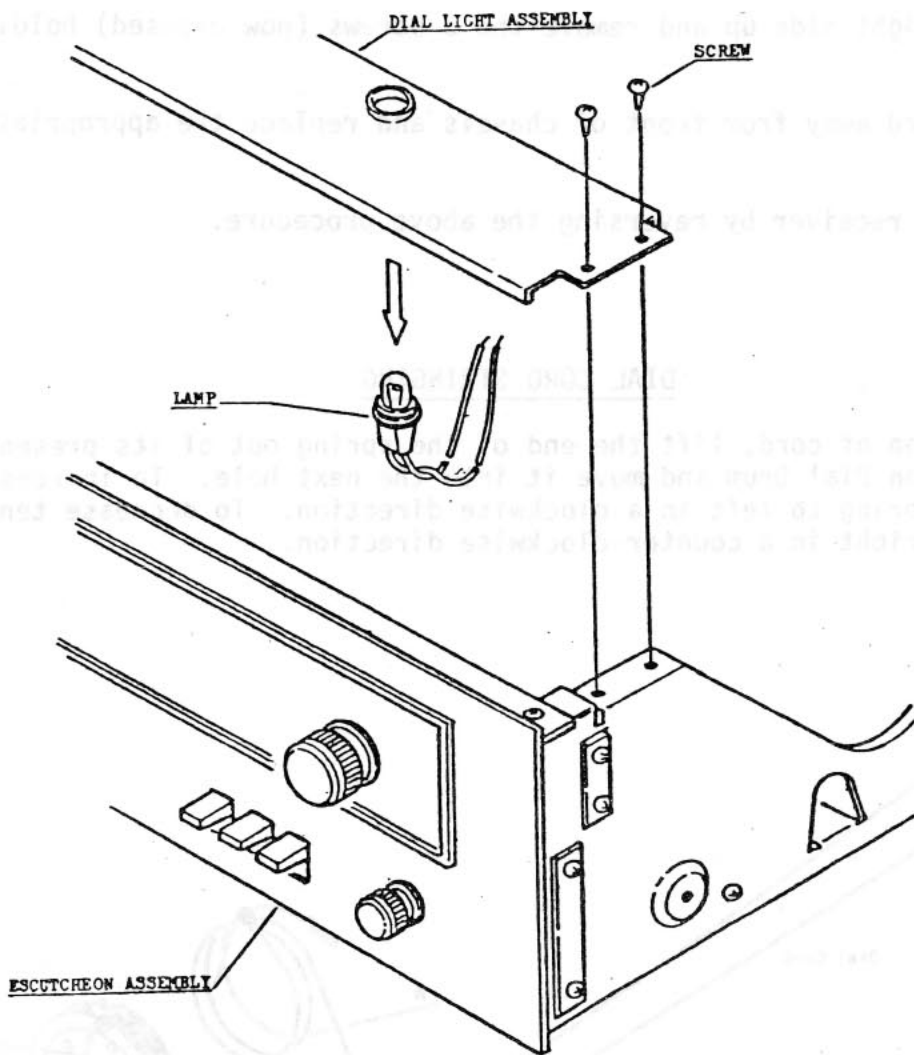

Figure 5. Replacement of Dial Lamps.
2. Unscrew the 4 Phillips Head mounting screws (2 on each side) holding the Dial Light Assembly to the Escutcheon Assembly (as shown in Figure 5). Then, lift Dial Lamp Assembly toward the rear of the receiver.